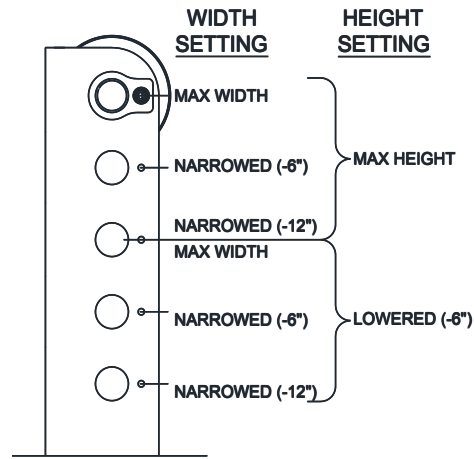

Fig. 3 - Sheave Position in Lower Bracket
3. Determine the sheave location on the lower bracket based on the overall height and width of lift at its chosen configuration. See **Fig. 3** below.